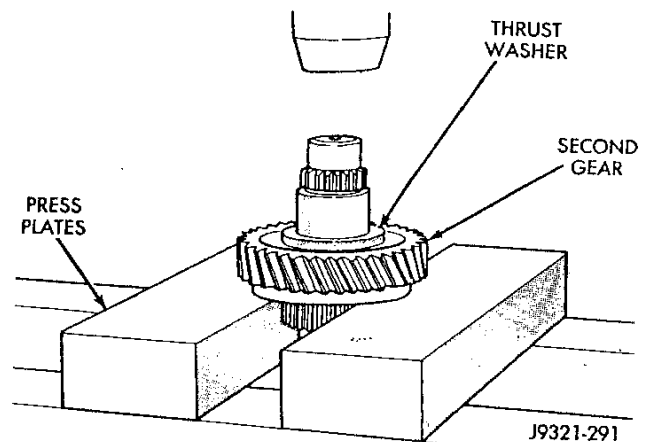

Fig. 26 Second Gear And Thrust Washer Removal
- (13) Remove second gear and thrust washer from shaft with hydraulic shop press (Fig. 26). Have helper hold output shaft while gear and washer are being removed.
- (14) Remove second gear bearing from gear or shaft.